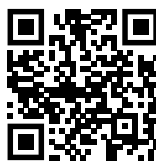

Fig. 133
- ▶ Open Liebherr SmartMonitoring Dashboard. (see Fig. 133)